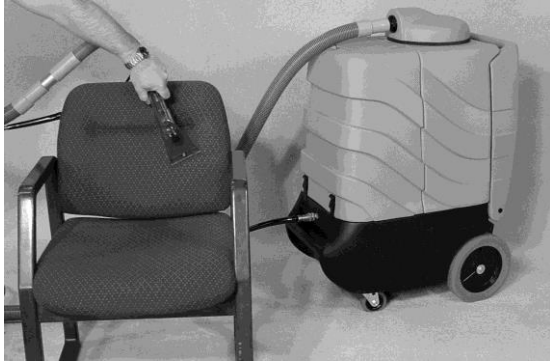

Fig. 8
1. Operate accessory tool as normal (Figure 8).